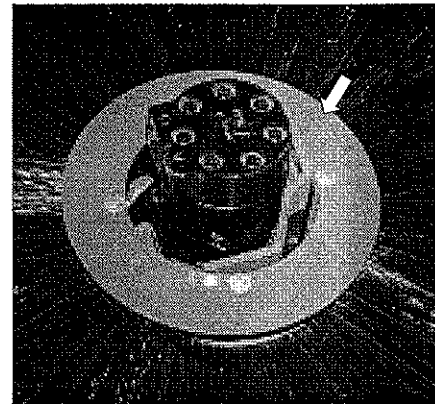

figure 25
6. Remove 4 cap screws and the retainer (figure 25).